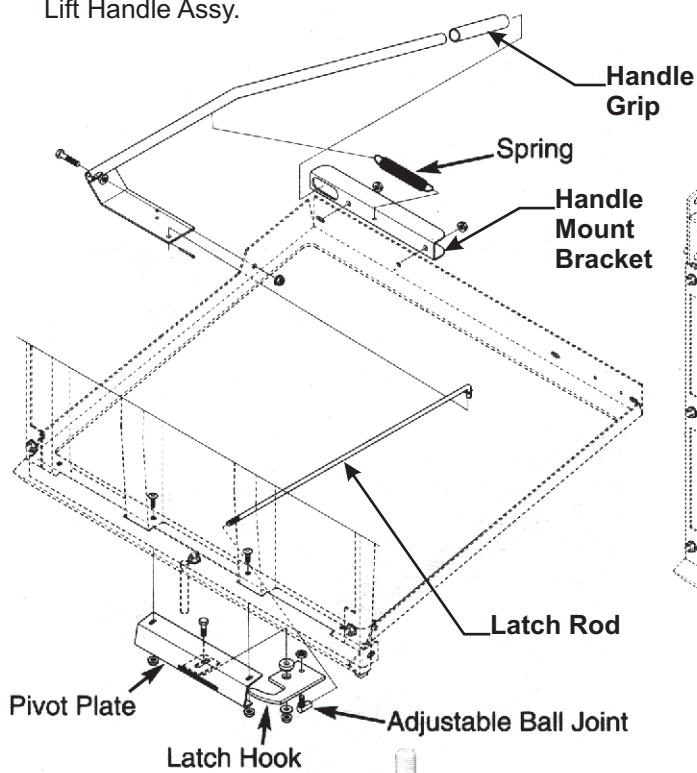

Figure 6
Before attaching the handle, hook one end of the spring P#(J0176) into the hole on the underside of the handle. Hook the other end of the spring into the open hole in the handle mount bracket. Fasten the handle to the grass container frame by using (1) 3/8"-16 x 2" HHCS P#(K1208) and (2) 3/8"-16 flange nuts P#(K1215). At this point the handle can pivot back and forth in the slot of the handle mount bracket. With the handle in place, fasten the ball joint P#(K1442) to the end of the latch rod P#(A0260) (Figure 6). Tighten to approximately half way down the threads of the latch rod. Slide the ball joint into the hole on the latch hook P#(B1529). Use (1) 5/16"-24 hex nut P#(K1444) and (1) 5/16" lock washer P#(K0043) to fasten the ball joint to the latch hook. Attach the opposite end of the latch rod into the handle. Fasten the rod to the handle by using (1) 3/32" x 3/4" cotter pin P#(K0094). Adjust the rod to allow the hook to close the box door completely.